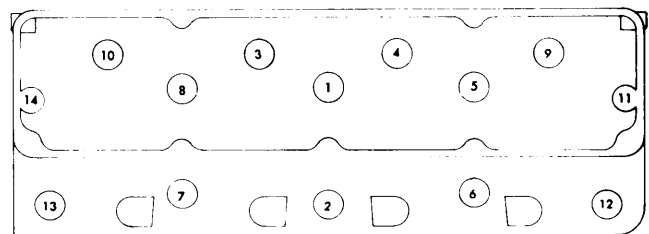

Fig. 1 Cylinder Head Tightening Sequence
2) Position gasket on block with word "TOP" facing up. Install cylinder head and retaining bolts. Tighten bolts in sequence. See Fig. 1.